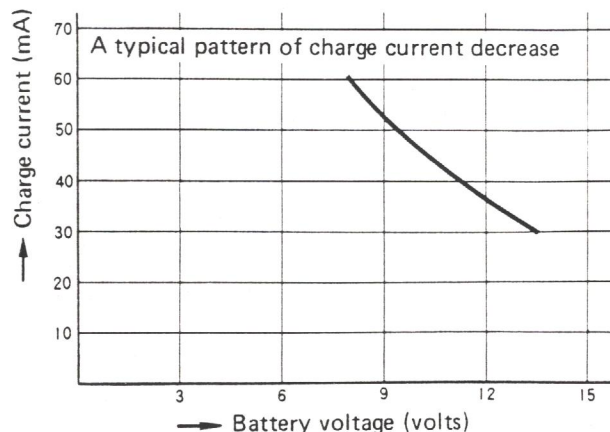

Fig. 8
3. Adjust VRt3 and/or modify the position of the pick-up lead, located near Lt22, until the meter reads figure 8. (The same applies to the telescopic antenna.)
Note:Charging current vs battery voltage curve for nickelcadmium cells is shown in Fig. 8. The charging current may deviate from this curve depending on the particular transceiver or cells used.